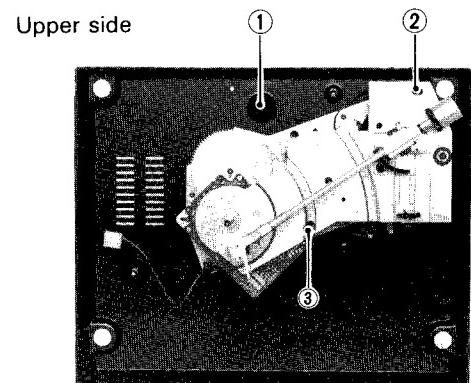

Fig. 14
1. Remove screws ① ~ ③ as shown in Fig. 14.